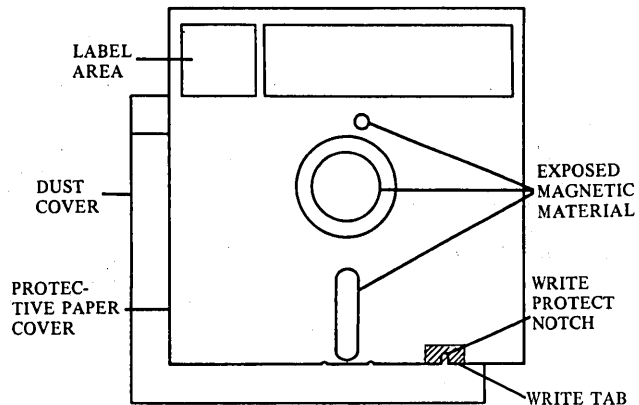

Figure C-5. Write Tab Applied Over Notch
- Figure C-5 shows the write tab applied over the write protect notch.
The notch located on the bottom of 8-inch floppy disks is called a Write Protect Notch. When it is **uncovered**, you cannot add to or change information on the floppy disk. In order to change or add information, you must install a 'write tab' over the Write Protect Notch, as shown in Figure C-5.
1. Open the floppy disk drive door (Figure C-5, step 2). The floppy disk comes partially out when you open the door.